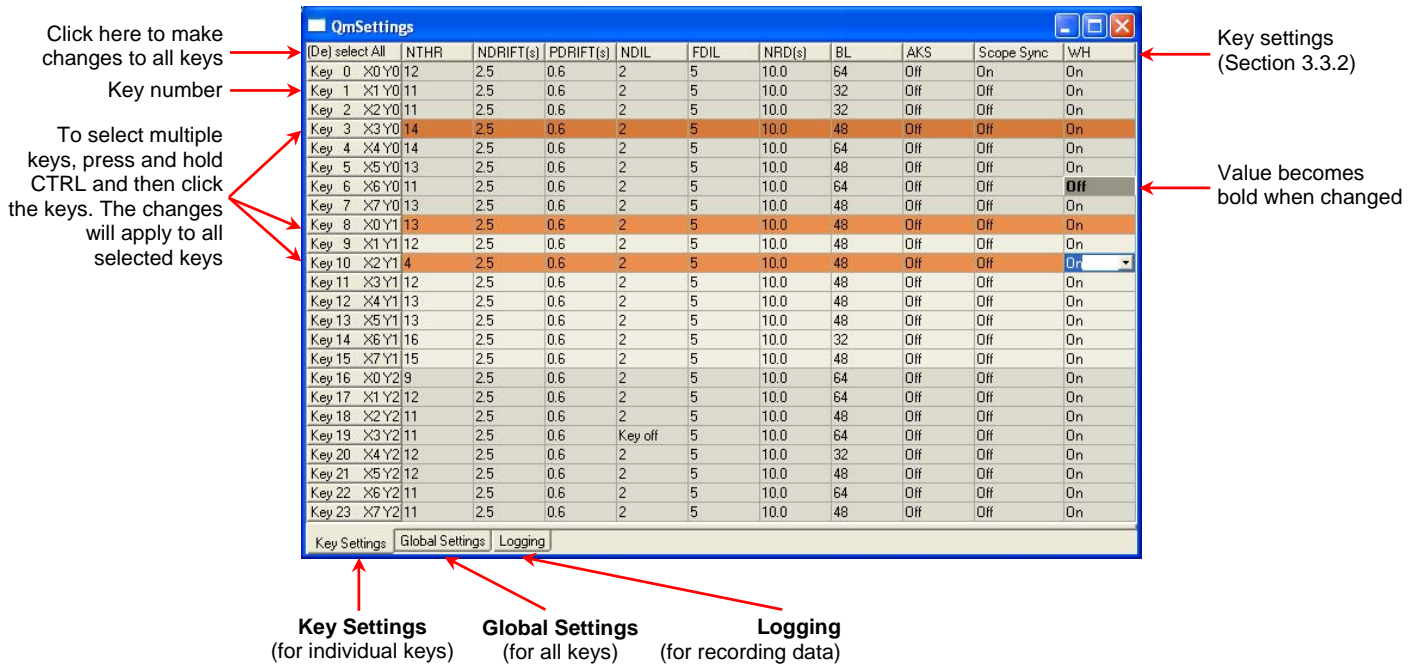

Figure 5: QmSettings Dialog Box – Key Settings
- the **QmSettings** dialog box (which has three tabs, Key Settings, Global Settings and Logging – see *Figure 5, page 9*)
If the dialog box does not open in the Key Settings view then click the **Key Settings** tab (see Figure 5). The default settings show NTHR and BL (with no tabs at the bottom of the dialog box). To see the full list of settings and the tabs click **Options, QmSettings, Advanced**.